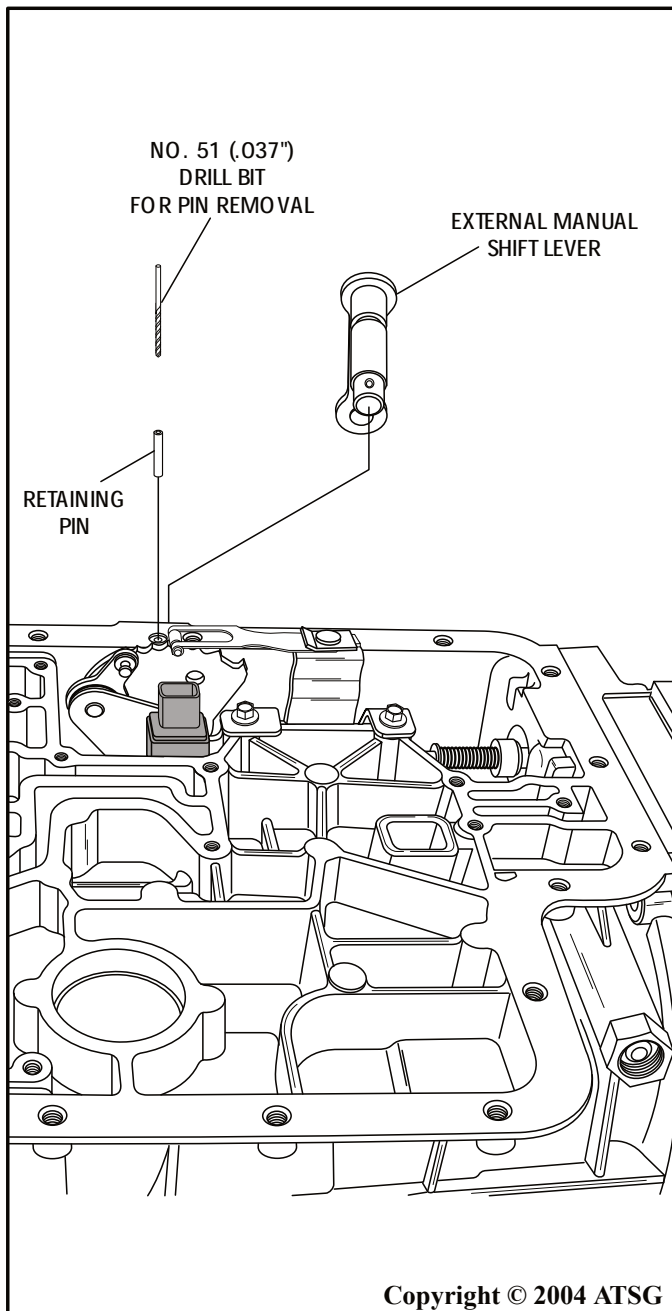

Figure 36
19. Remove the external manual lever retaining pin using a No. 51 (.037") drill bit, as shown in Figure 36, by tapping it with small hammer into roll pin, and removing pin with side cutters.
20. Remove the external manual shift lever from transmission case, as shown in Figure 36.